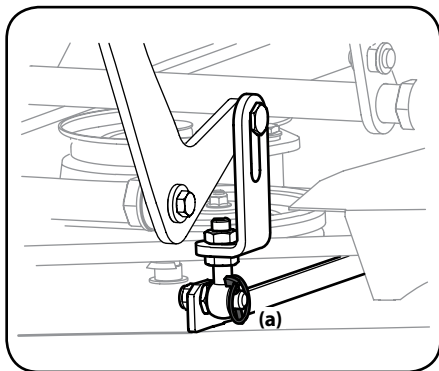

Figure 4-12
5. Remove the four lynch pins (a) that secure the deck to the deck lift assembly. See Figure 4-12.